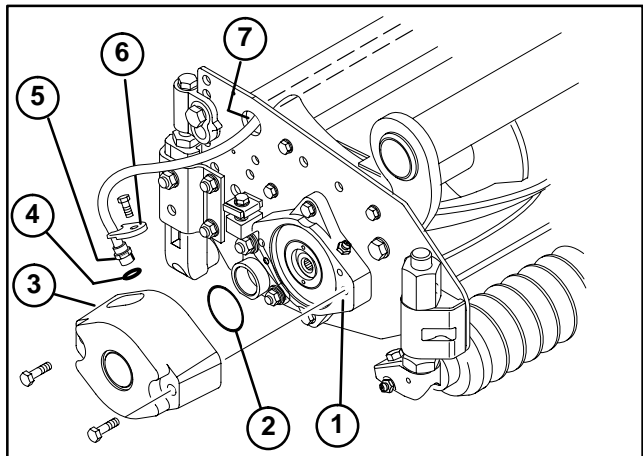

Figure 31
3. Lubricate and install a large O-ring into bearing housing groove on each end of cutting unit (Fig. 31 & 33).
4. Install a counter weight onto appropriate end of each cutting unit with capscrews provided (Fig. 31).
15. Install small O-ring onto speed sensor and insert sensor into hole in counterweight (Fig. 31).
16. Secure sensor to counterweight with a sensor holder and a M6 x 20 mm capscrew (Fig. 31).